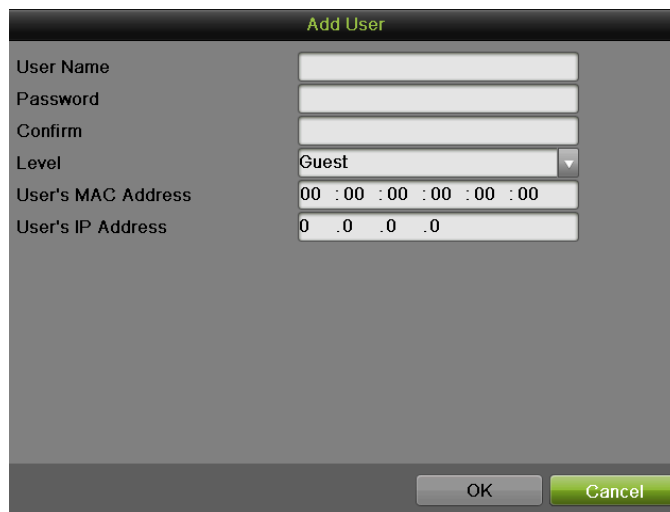

Figure 92 Add User Menu
1. On the User interface shown in Figure 59, click Add to enter Add User interface, as shown in Figure 92.